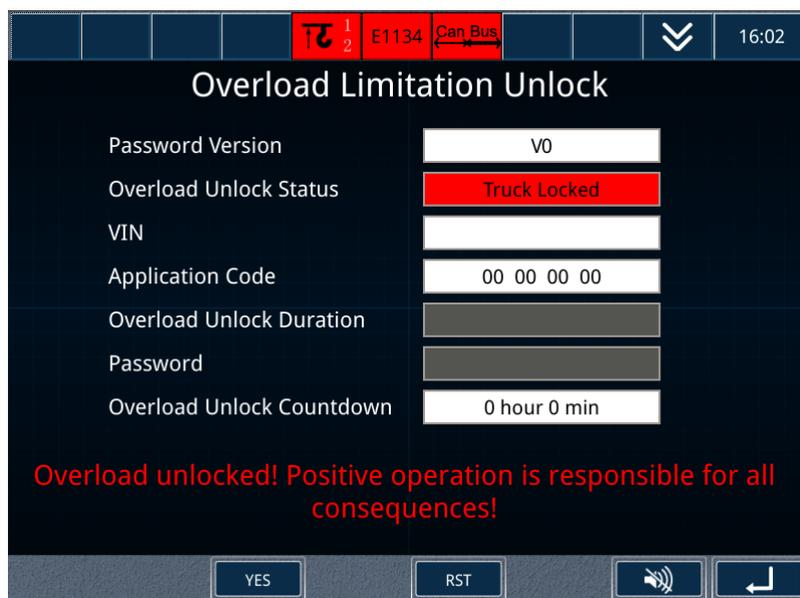

Figure 4-45 Serious overload time-limited unlocking interface
- Press the key  in the main interface to enter into the serious overload time-limited unlocking interface. Refer to Figure 4-45.